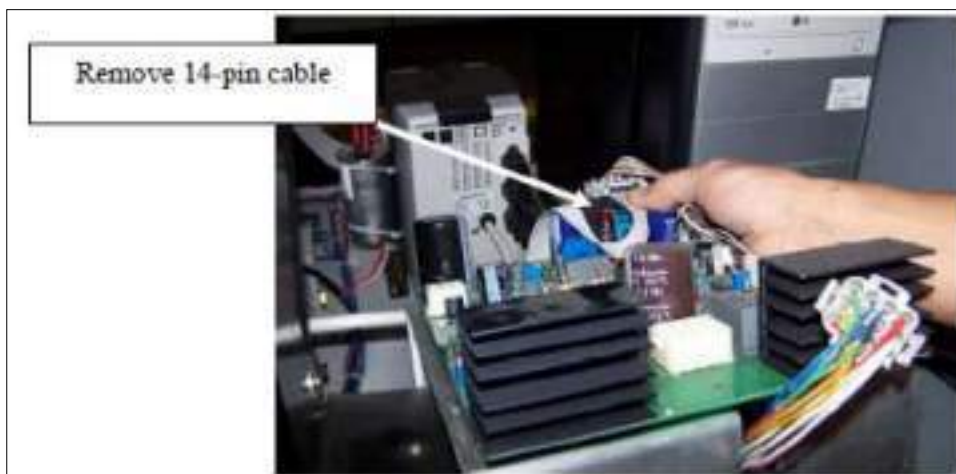

Figure 200: Removing 14-pin Cable
4. Remove the 14-pin cable (Figure 200).